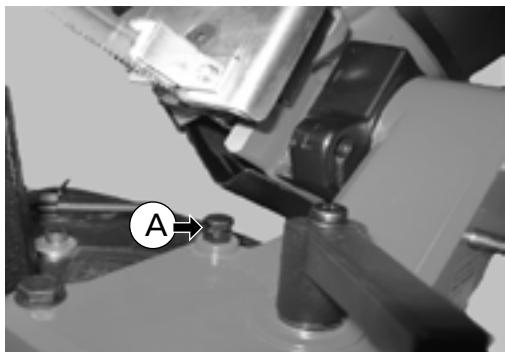
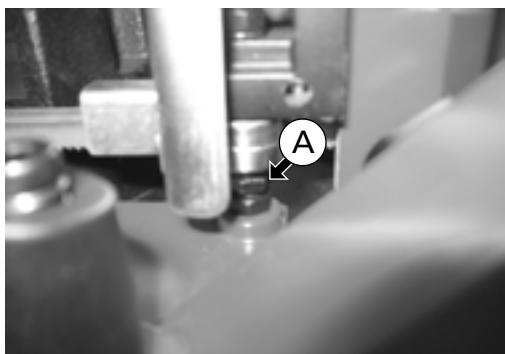

Fig. 21
Fig. 22
End stop (A) - (Fig. 21) controls the depth to which the arch may be lowered for the band saw and it prevents the cutting blade from making contact with the base (Fig. 22).
Elements of Fig. 21 - 22